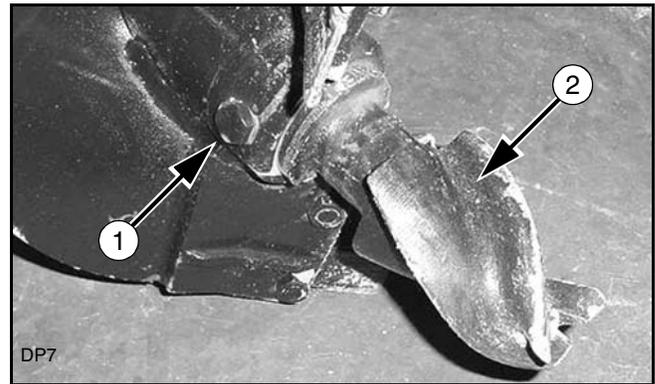

Figure 8. Pilot Bit Replacement
1. Remove bolt (1) as shown in Figure 8.
2. Remove and replace the pilot bit (2).
3. Replace bolt (1) and torque to 85 lbs-ft (115 N-m).